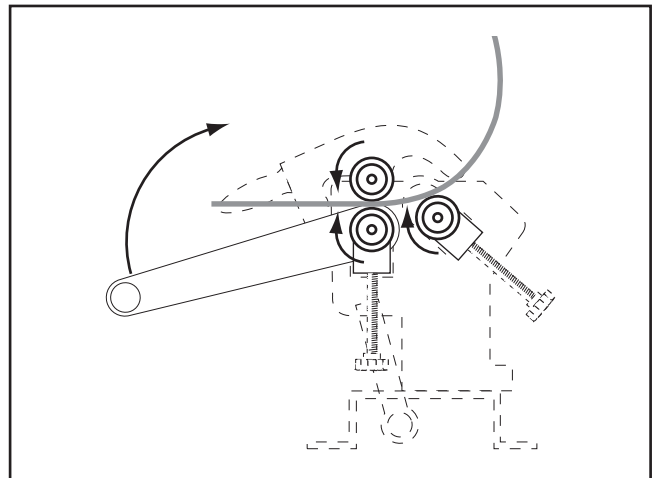

Figure 19. Processing the workpiece.
4. Turn the crank to process the material through the slip roll. Continue turning until the workpiece is completely through the top and bottom rollers (**Figure 19**).